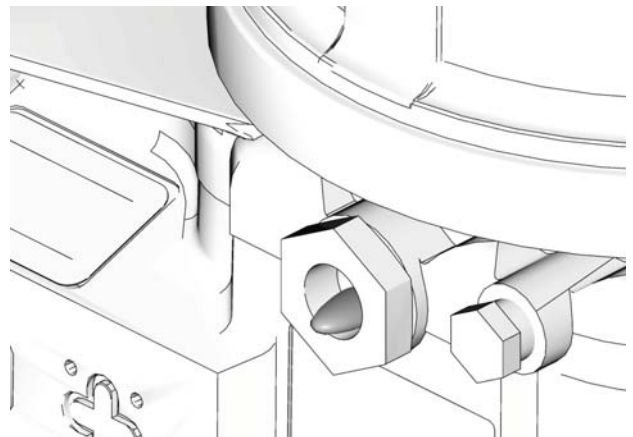

FIG. 19
2. Only run pump until air is no longer dispensed with the lubricant coming out of element fitting (FIG. 19).